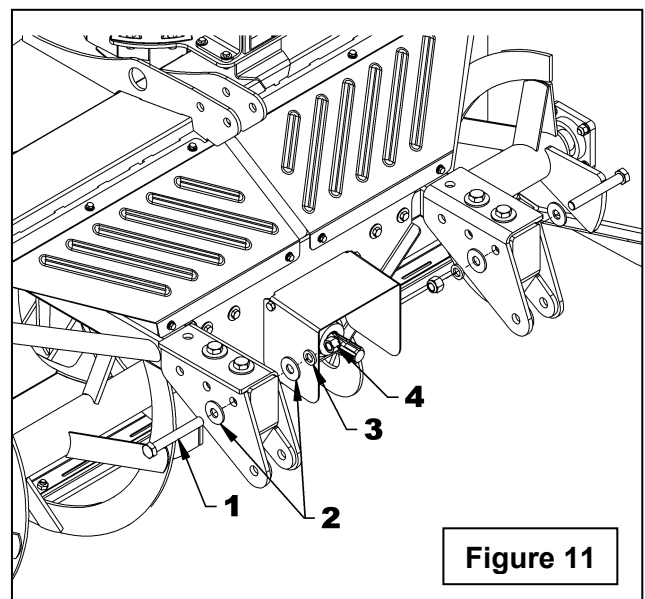

Figure 11
- Figure 11:** Remove the 3/4"NC x 5 1/2" side hex bolts (item 1) of the lower hitches, the 3/4" flat washers (item 2), the 3/4" lockwashers (item 3) and the 3/4" nylon insert locknuts (item 4).